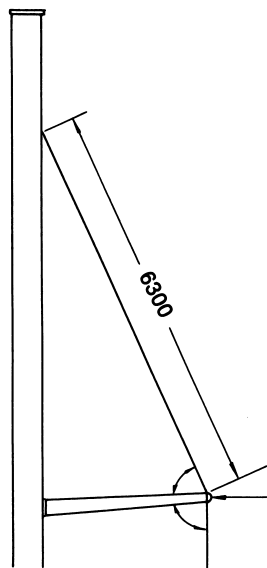

Fig. 7
Secure the tips of the spreaders to the upper shrouds (see Fig. 7).
**NOTE:** A SPREADER SHOULD BE ADJUSTED SO THAT THE ANGLES BETWEEN THE SHROUD AND SPREADER ABOVE AND BELOW ARE EXACTLY EQUAL (see Fig. 7) FAILURE TO DO THIS CAN CAUSE THE SPREADER TO SLIP WHICH COULD RESULT IN THE LOSS OF THE MAST.